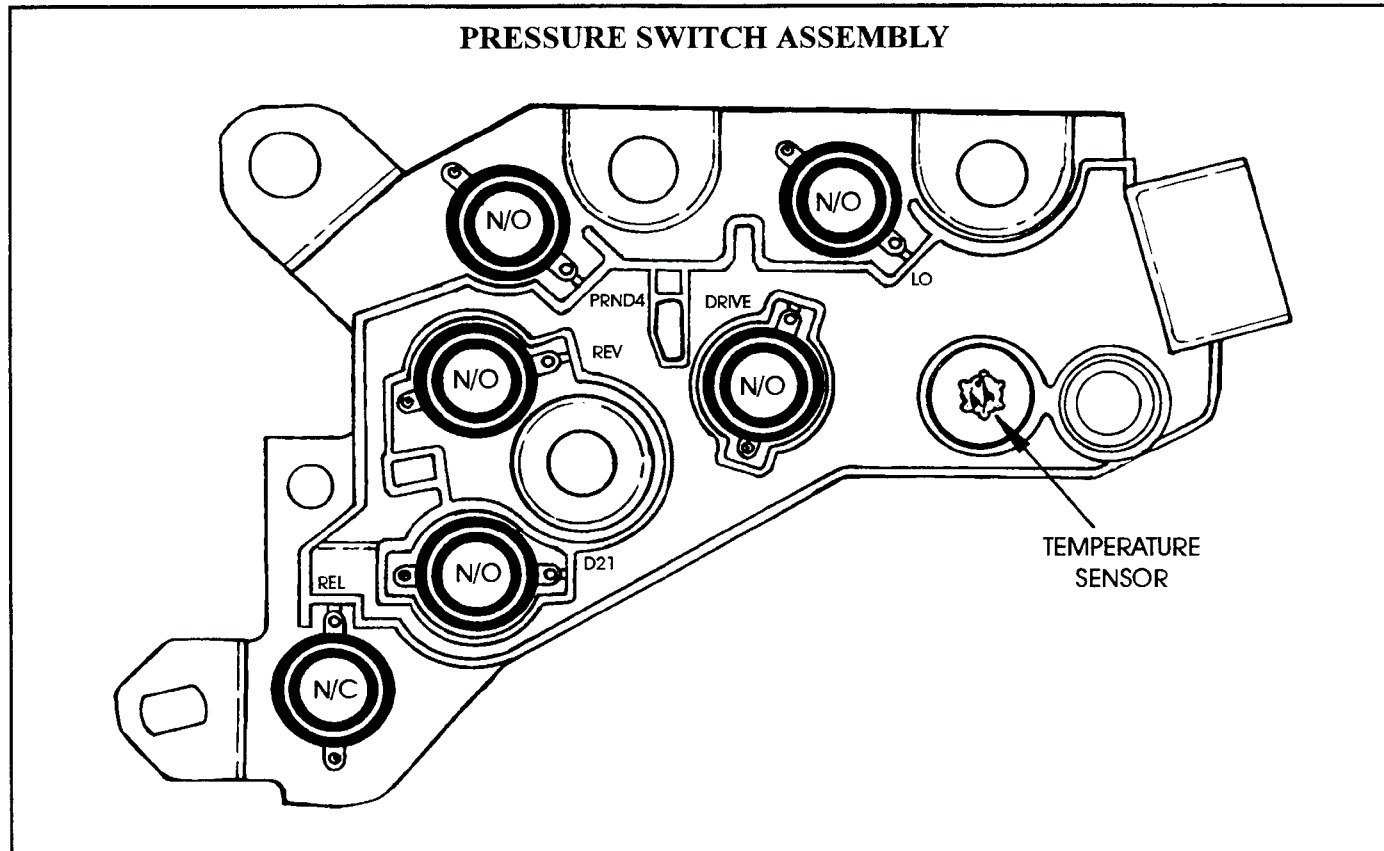

Figure 176
13. Inspect the pressure switch assembly to verify the condition and location of the "O" rings on the back side (See Figure 176).
14. One of the six switches in the pressure switch assembly is normally closed (N.C.), and the other five are normally open (N.O.), as shown in Figure 176.
18. Check the DRIVE, PRND4, REV, and the D21 switches in the same manner (See Figure 176).
19. Place the ohmmeter leads on the pins on each side of the REL switch, which is normally closed (N.C.) as shown in Figure 176.